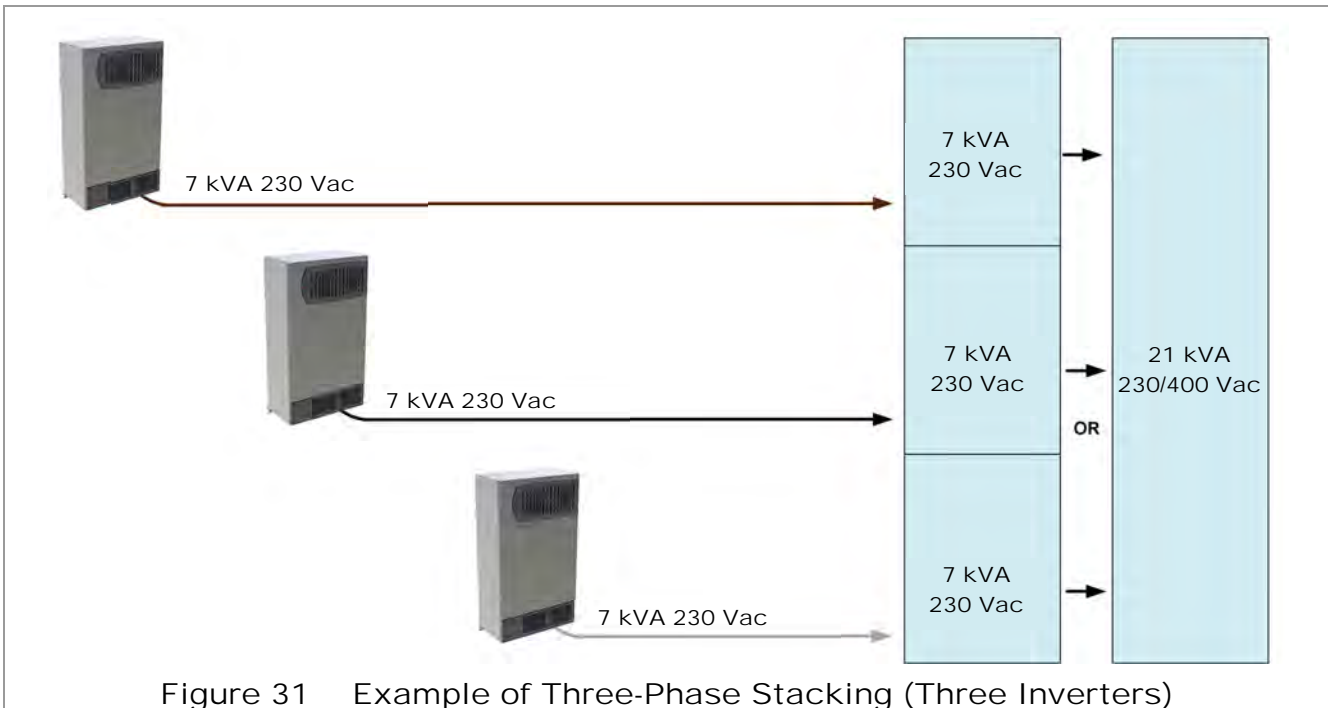
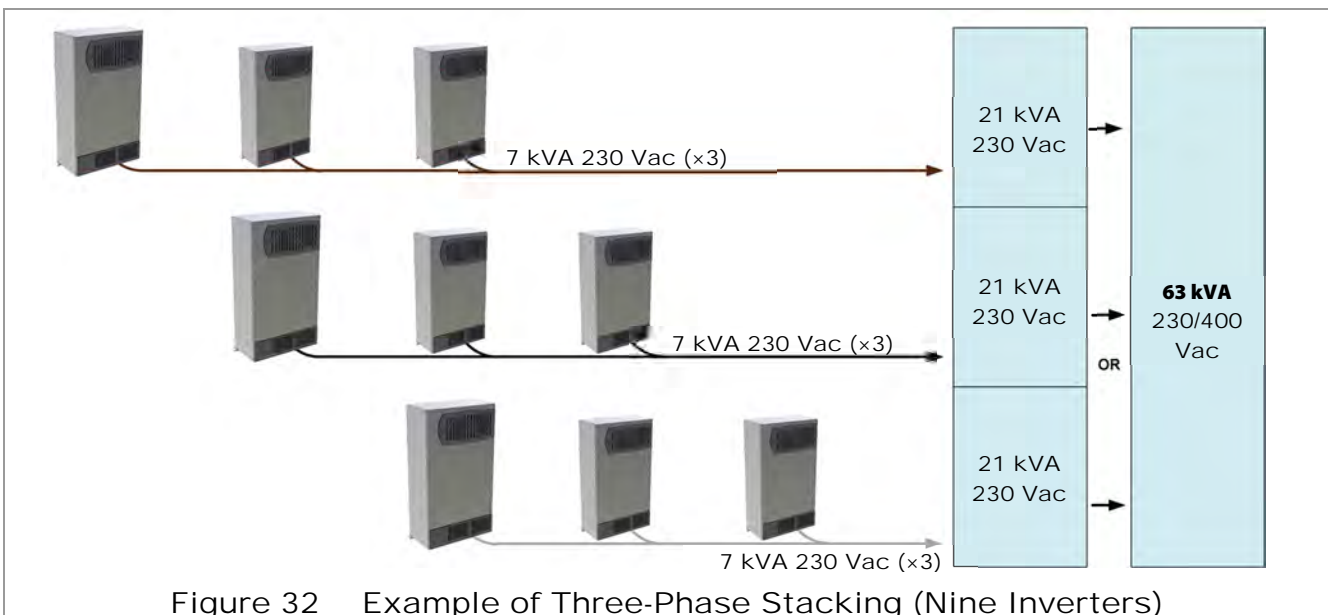

Figure 31 Example of Three-Phase Stacking (Three Inverters)
Figure 32 Example of Three-Phase Stacking (Nine Inverters)
- Up to nine inverters, three per phase, may be installed in a three-phase arrangement. Figure 31 shows three inverters, as do the figures on the following pages. Figure 32 shows nine inverters.